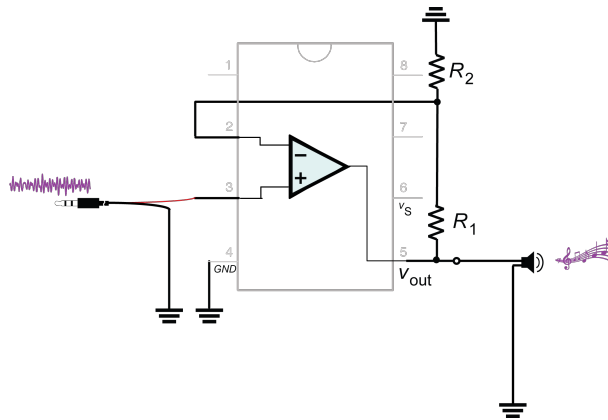

Figure 6: Simple audio amplifier. Can you spot the non-inverting op-amp configuration?
- 3.5. Without using jumper wires, position  $R_1$  and  $R_2$  according to the non-inverting op-amp configuration (Figure 6). *Since  $R_1$  connects  $v_{out}$  to  $v^-$  you can carefully push it in across the LM386, without needing jumper wires.*